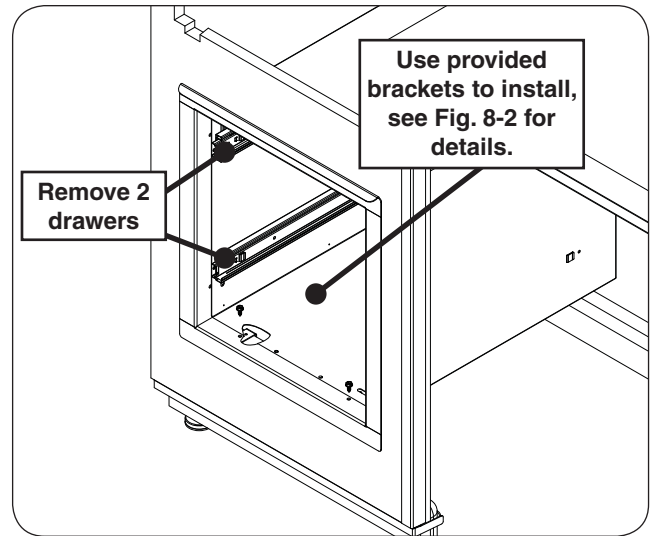
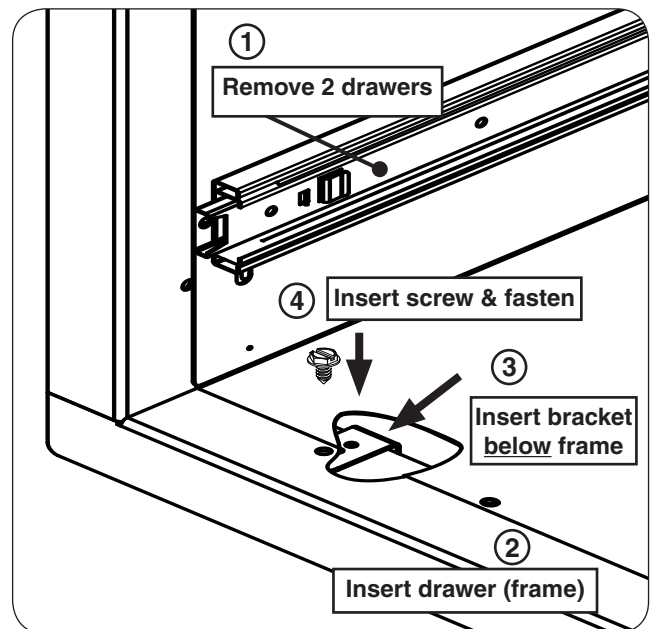

Fig. 8-1 Install drawer
Fig. 8-2 Install drawer detail
1. Remove the drawers. See Fig. 8-1. (Refer to the instructions provided with the drawer if needed.)
2. Insert your unit **completely** into the appropriate opening. Ensure it is flush against the exterior wall (see Fig. 8-1 and Fig. 8-2, step 2).
3. The drawer will have 2 round holes on both the top and bottom of its frame. Reach from within the island and insert a bracket where a hole exists, **below the frame**. See Fig. 8-2, step 3.
4. While squeezing the rear of the bracket and the front of the drawer frame **firmly** against the concrete wall, insert a hex screw and tighten with the power drill and 5/16" hex driver (see Fig. 8-2, step 4). **DO NOT OVERTIGHTEN.**